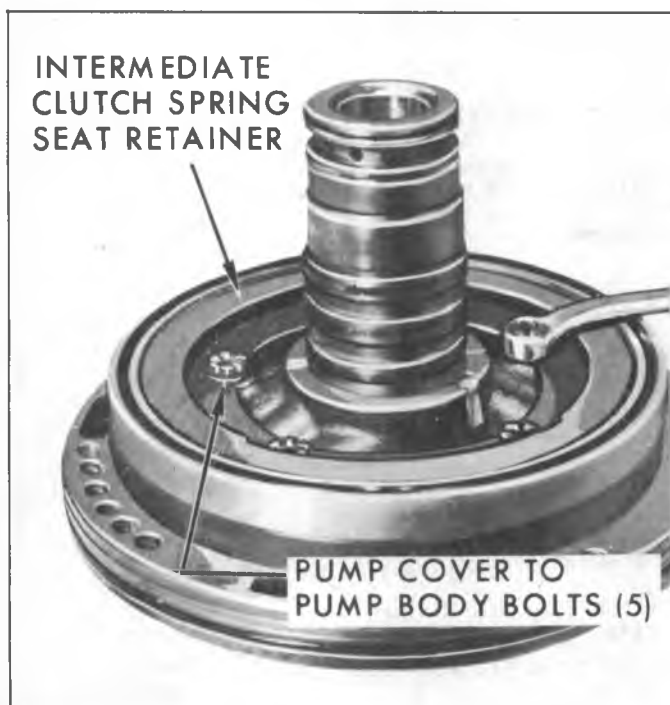

Fig. 56M--Removing Pump Cover to Pump Body Bolts
- Remove pump cover to body attaching bolts 5/16 x 18-1 1/2 (fig. 56M).